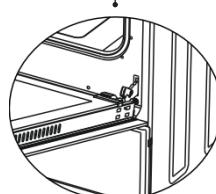

Figure 1.2
3. Next, carry out the unlocking operation by lifting the small hooks using a screwdriver (Figure 1.2).